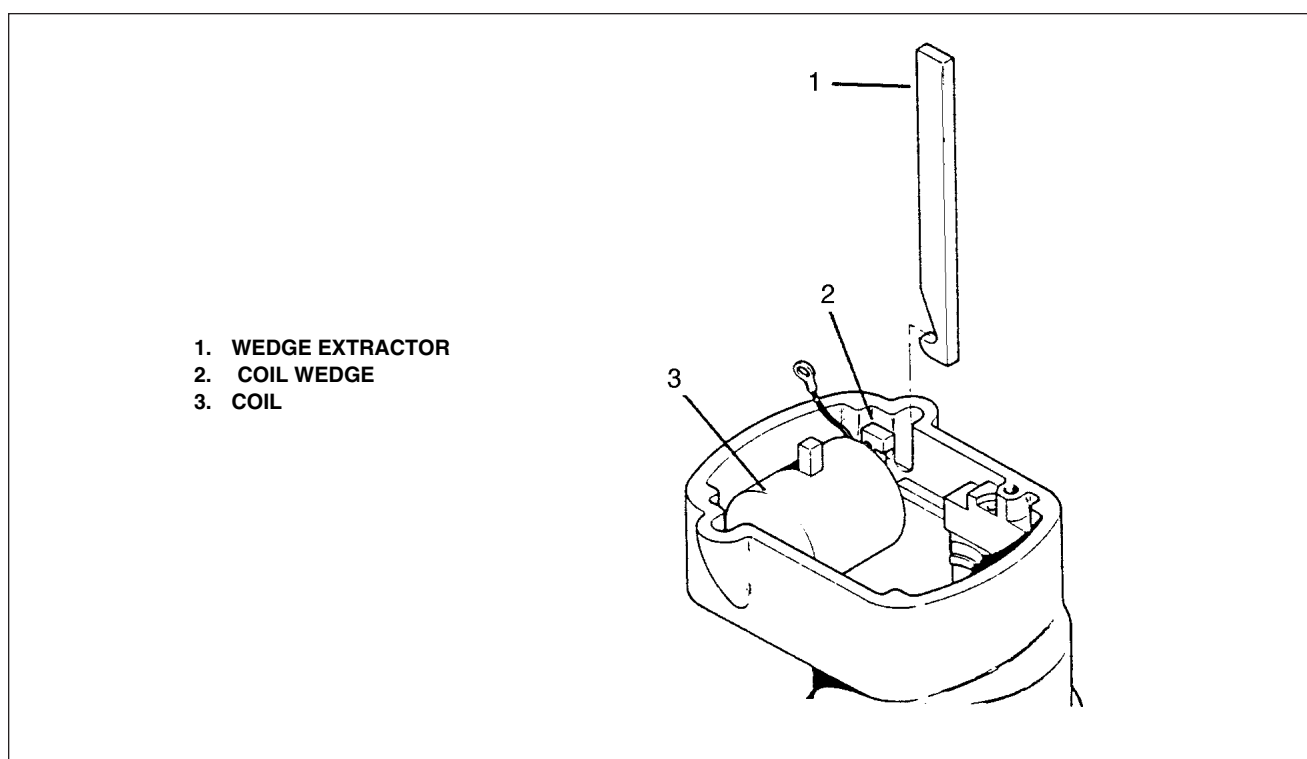

Figure 8-9. Removing Coil Wedges
h. Using coil wedge extractor T-122, remove coil wedges and lift out and discard coil. (Refer to Figure 8-9.) Remove air vents. Remove and discard oil seal.